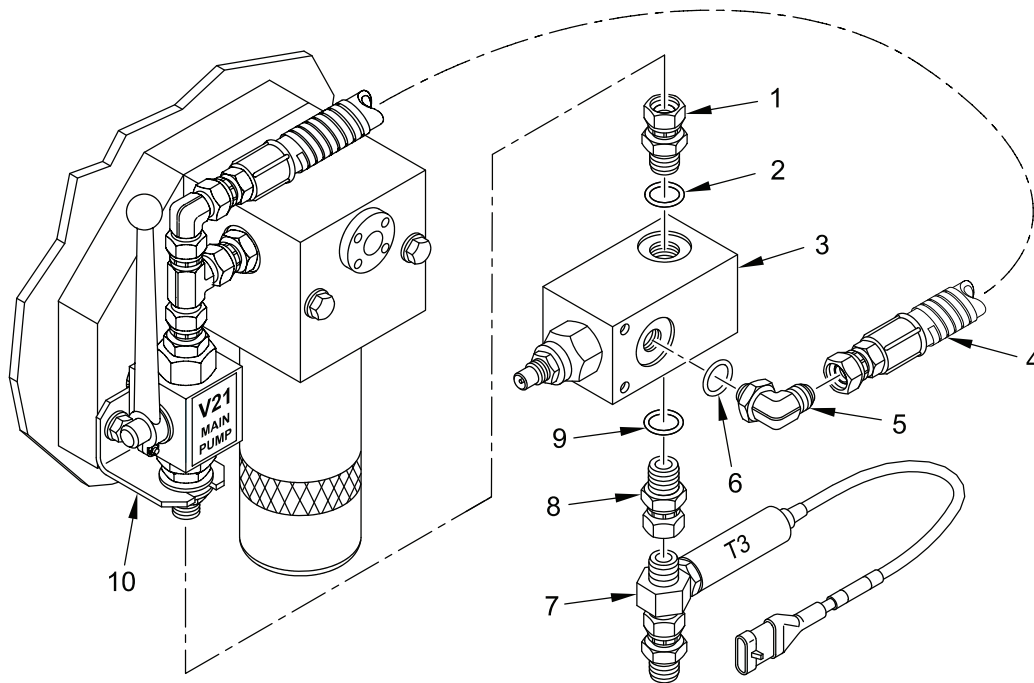

Figure 1.
1. Remove bypass hose (Figure 1, item 4), adapter (Figure 1, item 5), and o-ring (Figure 1, item 6) from relief valve (Figure 1, item 3). Discard o-ring.
2. Remove adapter (Figure 1, item 8) and o-ring (Figure 1, item 9) from bottom of relief valve (Figure 1, item 3) and tee (Figure 1, item 7). Discard o-ring.
3. Remove adapter (Figure 1, item 1), o-ring (Figure 1, item 2), and relief valve (Figure 1, item 3) from bulkhead bracket (Figure 1, item 10). Discard o-ring.